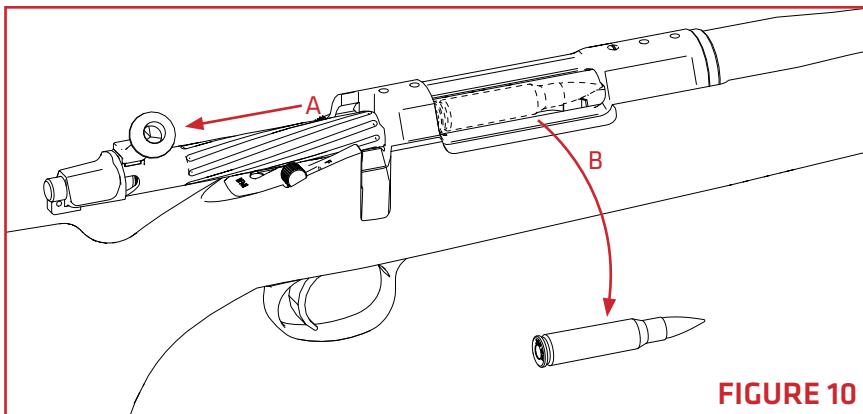

FIGURE 10
3. Once the cartridge is free from the magazine, pull the bolt completely to the rear (**FIGURE 10-A**) and manually remove the loose cartridge (**FIGURE 10-B**).